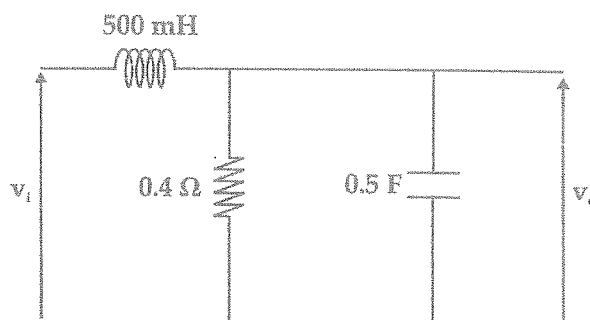

Figure Q3(b)
- b) Consider the circuit shown in Figure Q3 (b). The input voltage is v_i and the output voltage (v_o) is the voltage across the capacitor.
- ii) Obtain the state-space model of the system given in Figure Q3 (b).